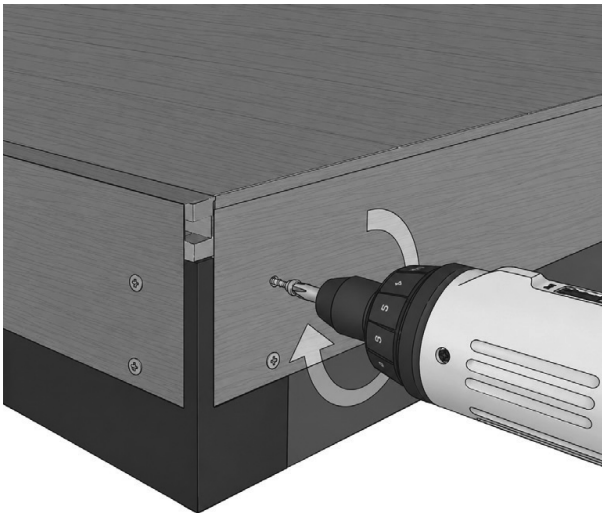

FIG. 23 – FASCIA BOARD FIXED TO HIDE THE GROOVED DECKING EDGE
- 01 Line up the top fascia-board edge with the top of the decking to hide the grooved decking edge (fig. 23).